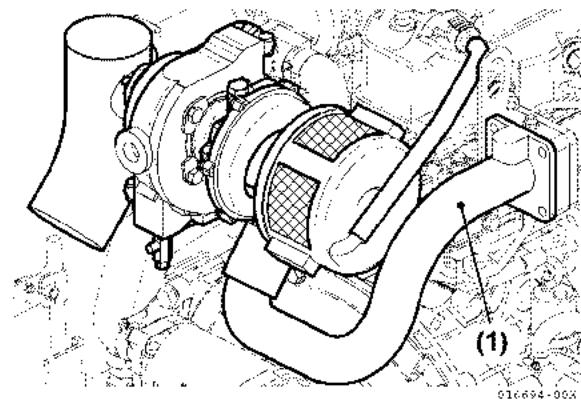

Figure 9-3
1. Remove intake pipe for 4JH4-TE (Figure 9-3, (1)) and intake pipes (turbine, intercooler, intake manifold) for 4JH4-HTE (Figure 9-4, (1)).